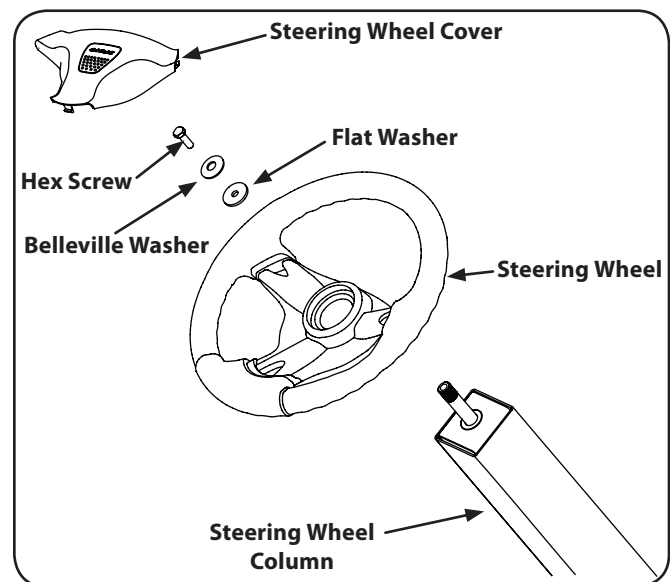

Figure 3-2
3. Place the flat washer and belleville washer over the steering wheel and secure with the hex screw. See Figure 3-2.